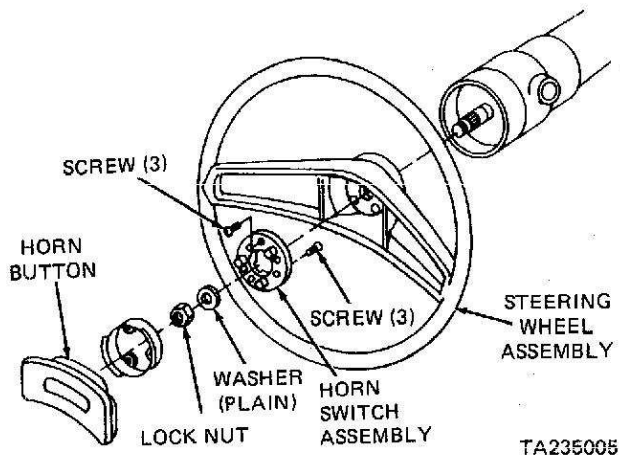

Figure 2-45. Horn Switch Removal.
(1) Remove the horn button by pulling it off the center of the steering wheel (see figure 2-45).